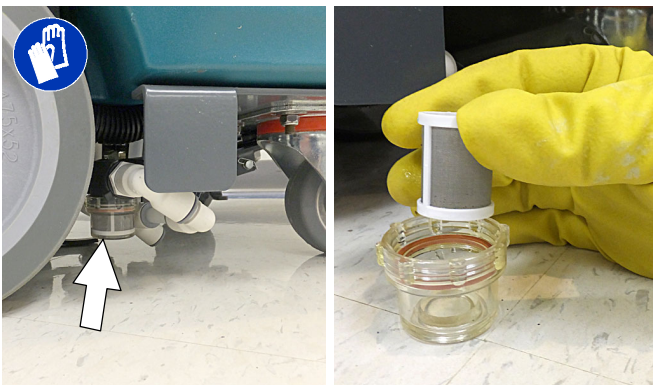

FIG. 66
1. Drain solution tank. Remove the solution tank filter and clean screen (Figure 66). Turn the filter bowl counter-clockwise to remove.